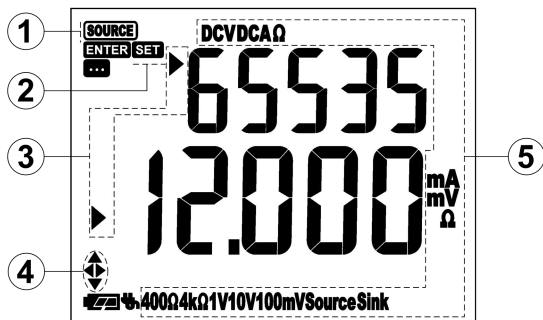

Figure 5.12 Modification state of the the calibration value according to the calibration point
Step 4: The Key of **CLEAR** was pressed to enter the modification status of calibration value at the high or low calibration point for corresponding signal types as shown in [figure 5.12].